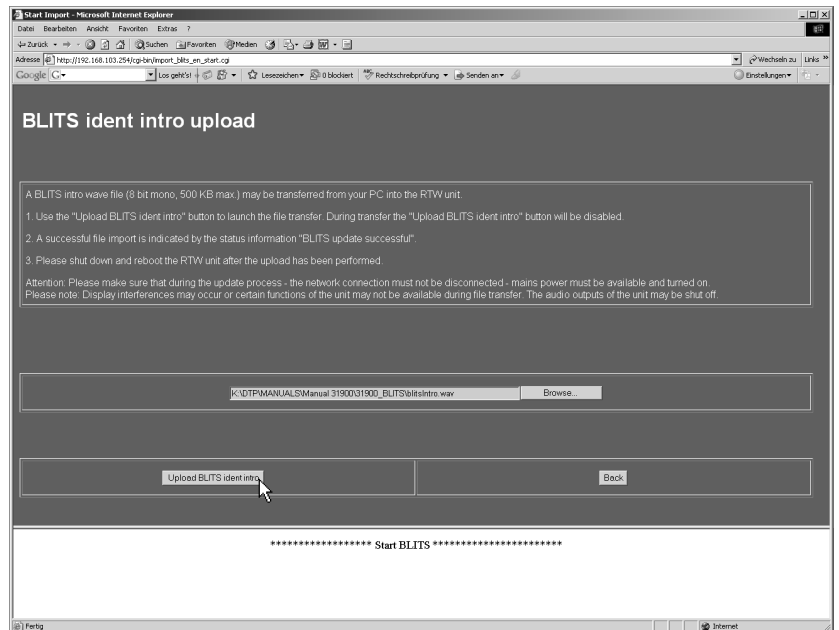

Fig. 8-30: Starting the upload
5. A click to the Upload BLITS ident intro button starts the data transfer to the Surround Control units (see Fig. 8-30). If the Upload BLITS ident intro button is not visible move the menu page upward by using the scrollbar on the right. **Please make sure that no interruption of the network access or supply power occurs during the download sequence.**